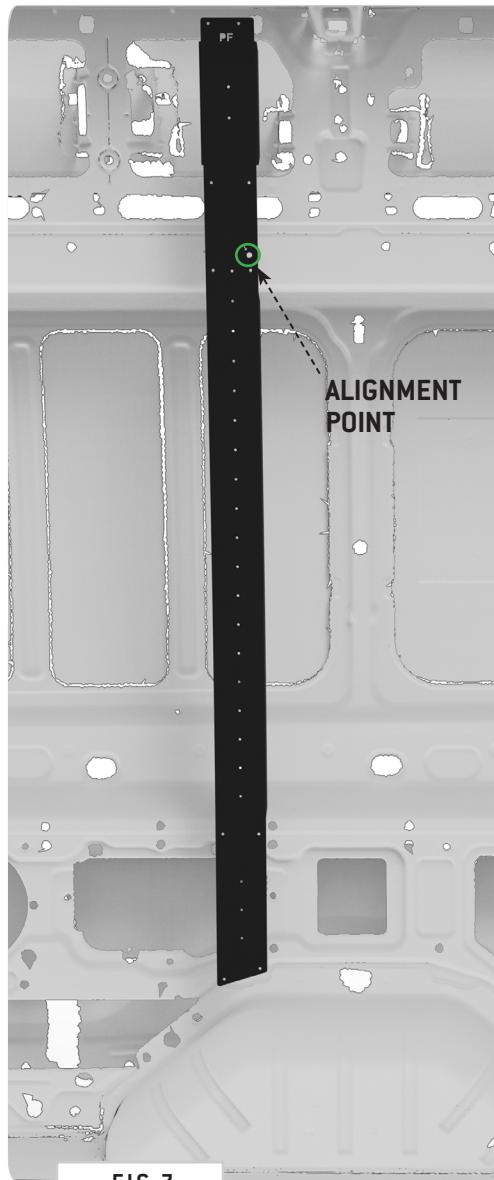

FIG 7
3.1 Align Driver Side Front Bracket: Align the **Driver Side Front Bracket** to the **Alignment Point** as shown in **FIG 7**. There should also be a **Body Seam** that you can use as a visual guide.